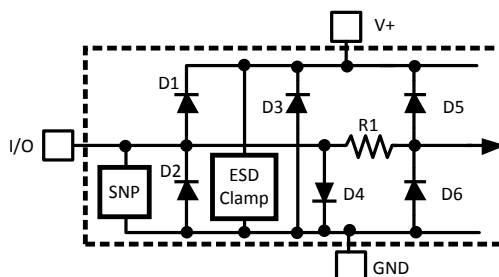

Figure 1. ESD Protection Input Structure
- (1) Absolute Maximum Ratings indicate limits beyond which damage to the device may occur. DC and AC electrical specifications do not apply when operating the device beyond its rated operating conditions.
- (2) When the input voltage (V_I) at any pin exceeds the power supplies (V_I < GND or V_I > V_{DD}), the current at that pin should be limited to 5 mA. Parasitic components and or ESD protection circuitry are shown in Table 1 and Figure 1 for the LM86's pins. The nominal breakdown voltage of D3 is 6.5 V. Care should be taken not to forward bias the parasitic diode, D1, present on pins: D+, D–. Doing so by more than 50 mV may corrupt a temperature measurements.
- (3) See the URL "<http://www.national.com/packaging/>" for other recommendations and methods of soldering surface mount devices.
- (4) Human body model, 100pF discharged through a 1.5kΩ resistor. Machine model, 200pF discharged directly into each pin.